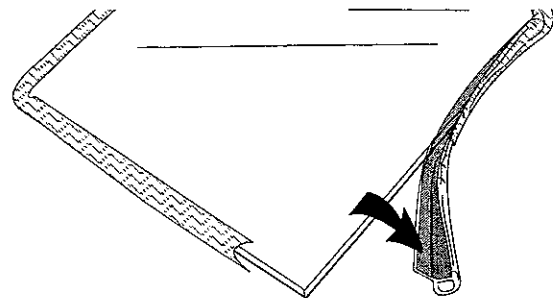

Fig. 34. Wrap the self-adhesive gasket material around the outside edge of the glass
Use only Vermont Castings glass gasket no. 120-3702. Note that the gasket material has two distinct halves; the flat self-adhesive portion goes around the outer edge of the glass panel so that the thick, round half overlays the inside edge. Do not stretch the gasket. See Fig. 34
2. Remove about 6" of the protective paper strip from the gasket, and, starting on a long side of the glass, apply the flat adhesive face of the gasket around the outside-facing edge of the panel. Continue around the panel, applying about 6" of gasket at a time, and being careful to not stretch the material. See Fig. 34